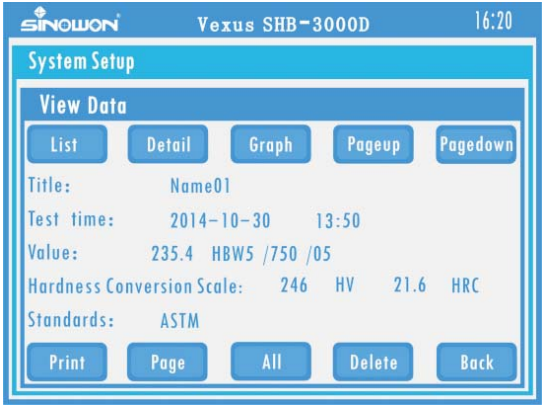

Fig.6-15
- 2) **Details**: To show the detail information of each test result, like test time, test scale, hardness conversion. Fig6-15.